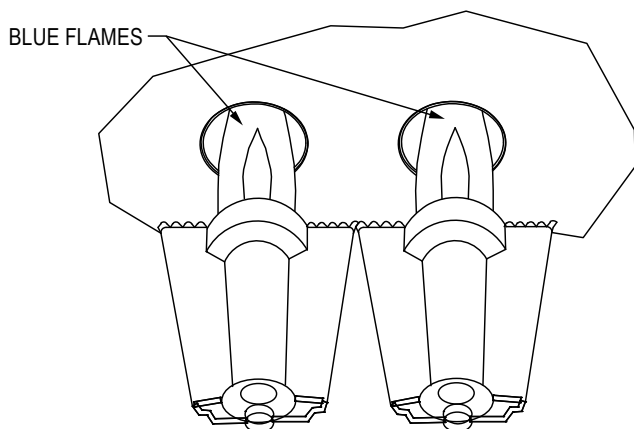

FIGURE 42 - Burner Flames
6. The burner flames are proper; being drawn into the heat exchanger tubes, not lifting, blue in color, or not being distorted by fan operations (see **FIGURE 42 - Burner Flames** below).